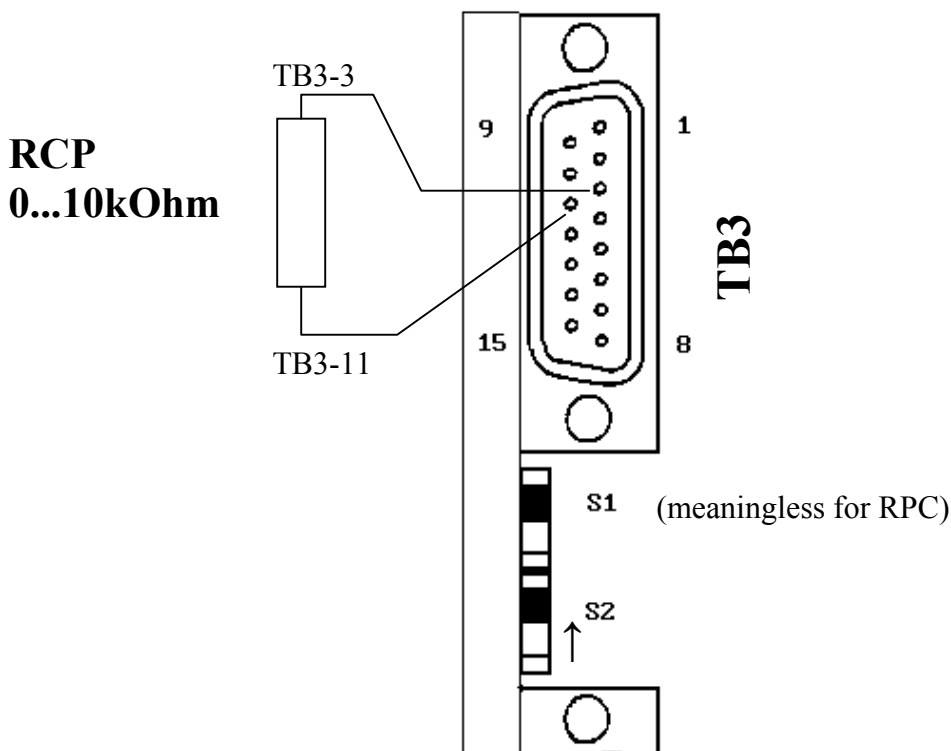

Fig.7
2. Connect the programming resistance between TB3-3 and TB3-11 (see fig.7)